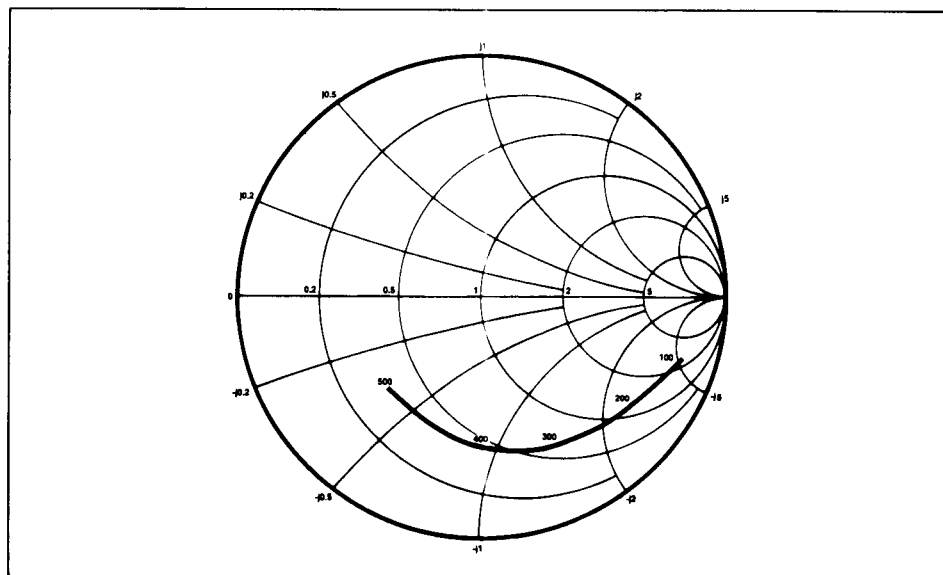

Fig.4 Typical input impedance. Test conditions: supply voltage 5.0V, ambient temperature $25^{\circ}C$, frequencies in MHz, impedances normalised to 50 ohms.
9. The input impedance of SP8906 is a function of frequency. See Fig. 4.